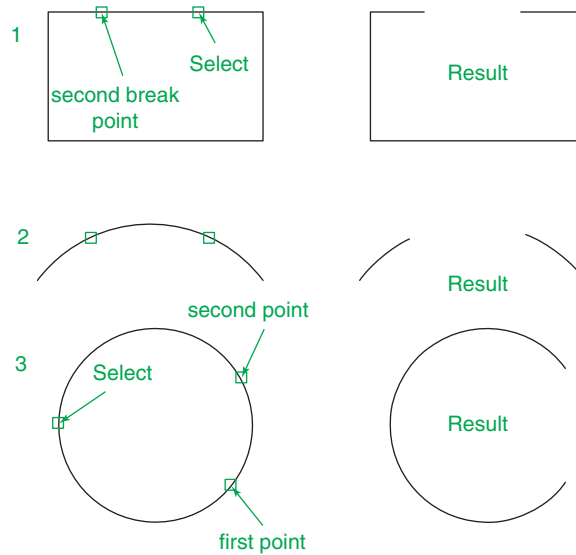

Fig. 5.36 Examples – Break
Examples – Break (Fig. 5.36)
1. Construct the rectangle, arc and circle (Fig. 5.36).
The results are shown in Fig. 5.36.